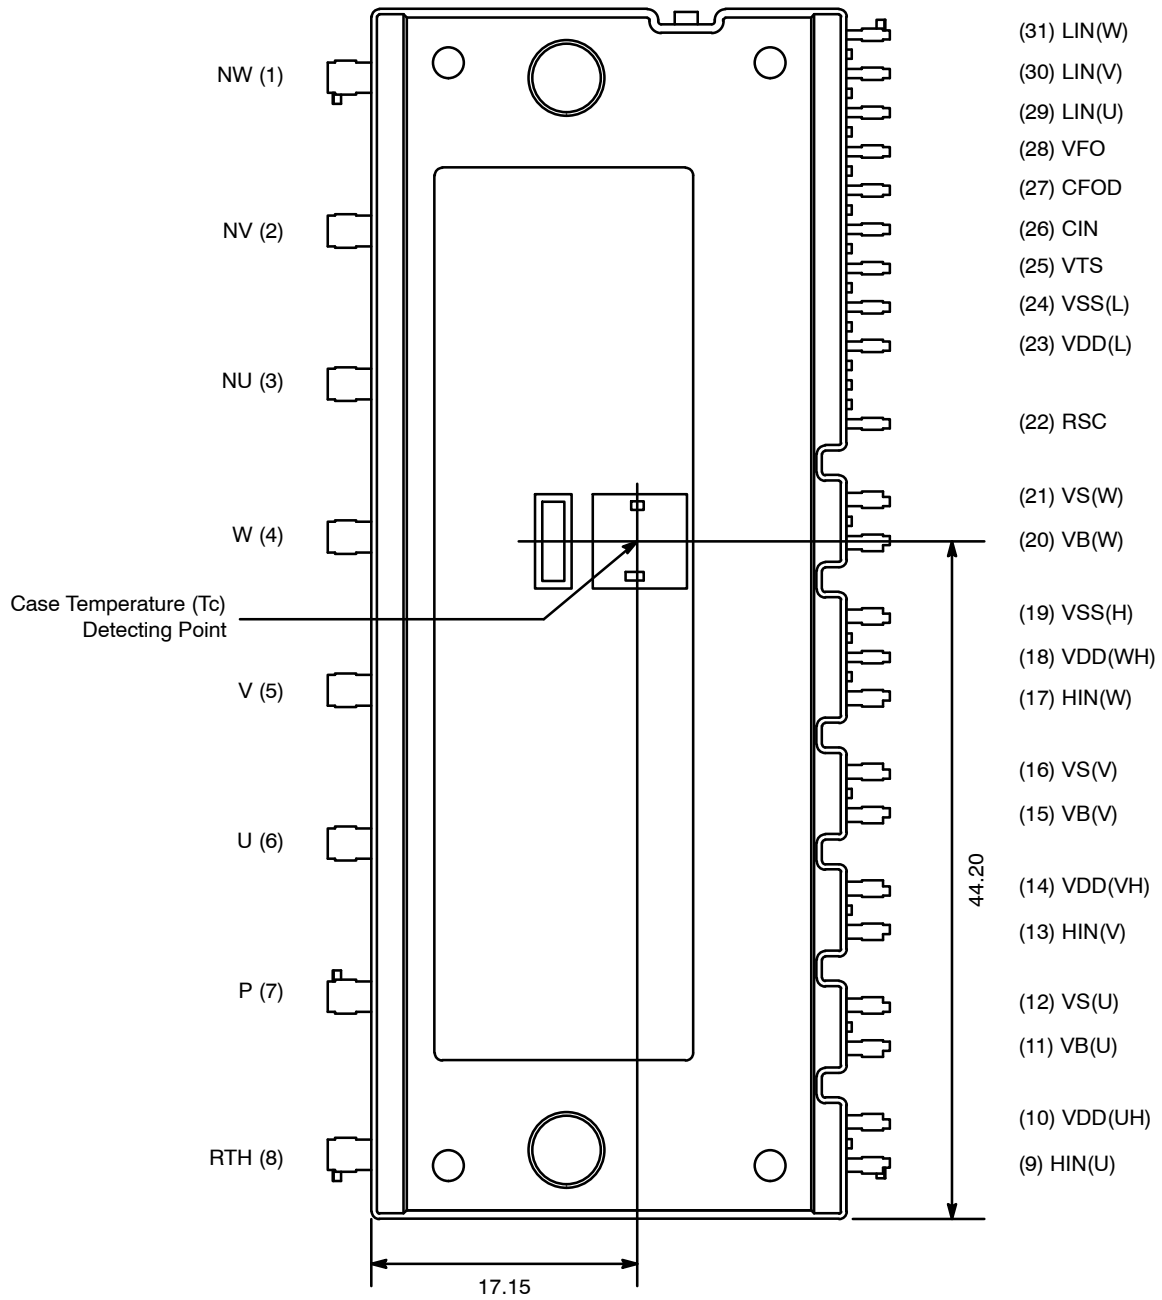

Figure 1. Pin Configuration – Top View
5. For the measurement point of case temperature (Tc), please refer to Figure 1. DBC discoloration and Picker Circle Printing allowed, please refer to application note AN-9190 (Impact of DBC Oxidation on SPM® Module Performance).